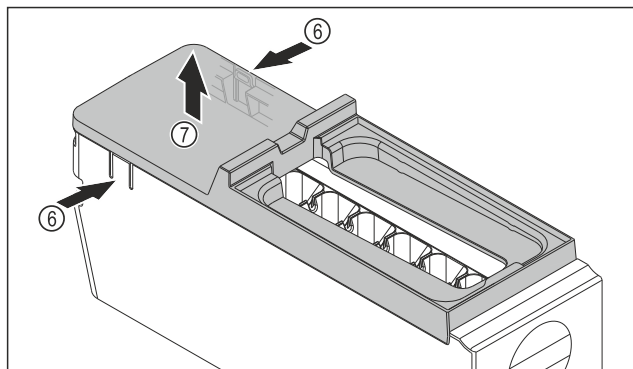

Fig. 79
- ▶ Removing the EasyTwist-Ice body cover: Push the tabs Fig. 79 (6) on both sides of the EasyTwist-Ice body with one hand.
- ▶ Use the other hand to remove the cover Fig. 79 (7) upwards.